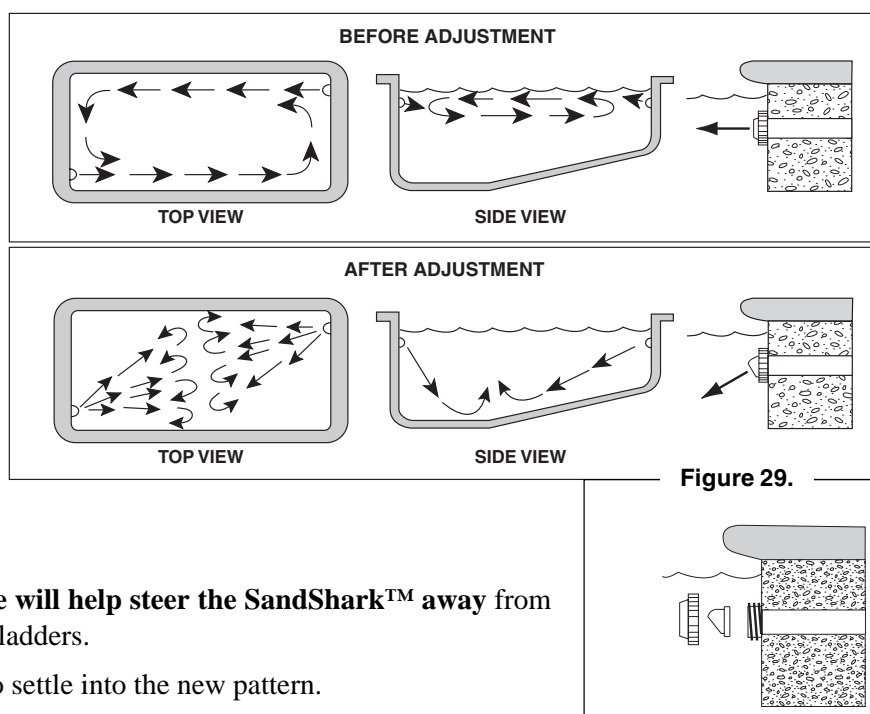

Figure 29.
1. Position the diverter opening to redirect the return line water flow so it does not interfere with the SandShark's movement as shown in Figure 29.